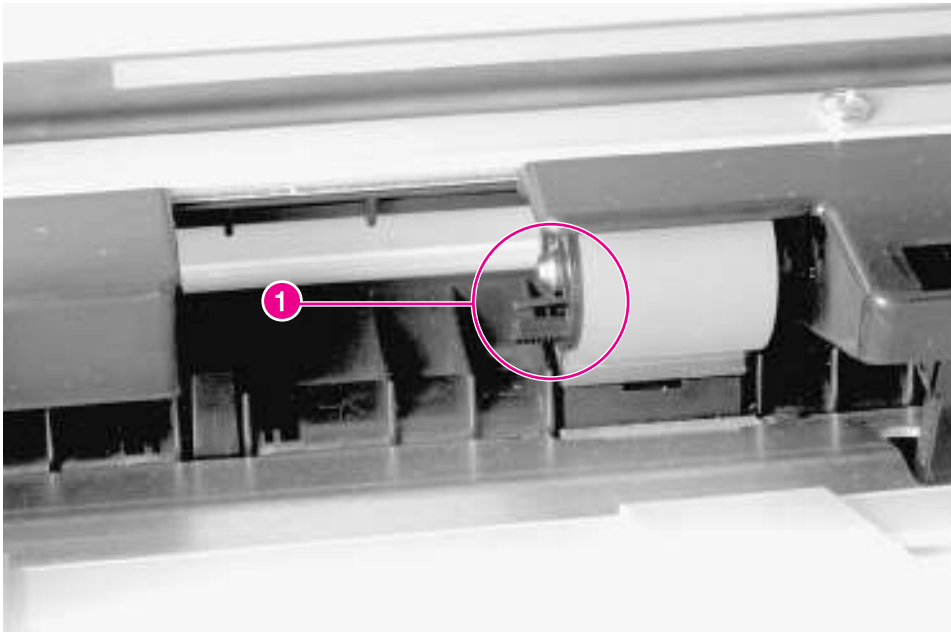

Figure 6-54 **Tray 1 Feed Roller**
- 2** Pinch the retainer tabs together (figure 6-54, callout 1), and slide the roller to the left off of the shaft.